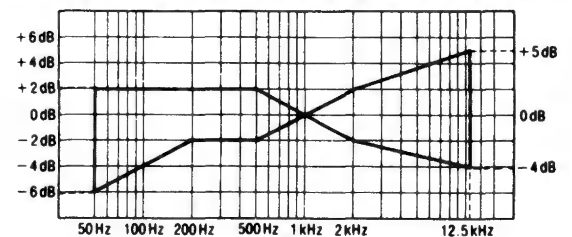

Fig. 9
5. Repeat steps 3 and 4 above for CrO₂ blank test tape (QZZCRX) and Metal blank test tape (QZZCRZ), in these cases raising the upper end of the test signal frequency range to 12.5kHz. Verify that the signal levels at the test frequencies fall in the ranges specified in Fig. 9 with respect to the reference signal level.